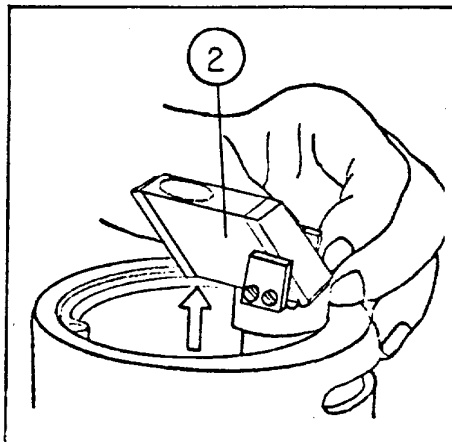

Fig. 15
- 12) Draw out the photographic lens holder (2) (Fig. 15).